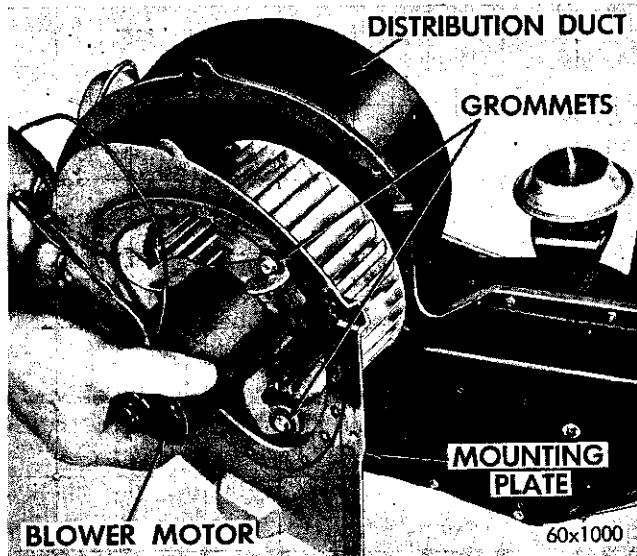

Fig. 50—Removing the Blower Motor
(7) Remove the housing and the blower by pulling down and out of driver's compartment. Remove the blower, mounting plate and motor (See Fig. 50).